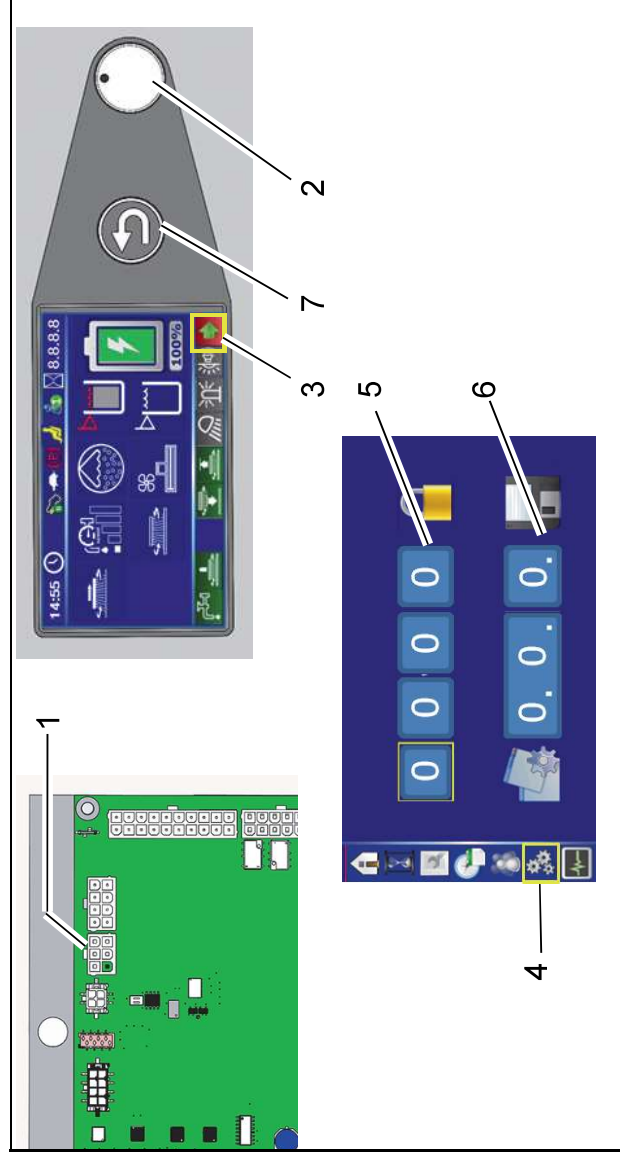

Fig. 3
Plug diagnosis plug into slot X20 of controller A1 (Fig. 3/1).
2. Select the arrow soft key (Fig. 3/3) on the control panel using the turn-push knob (DDS)(Fig. 3/2) and press to access the sub-menu.
3. Select the configuration menu in the sub-menu (Fig. 3/4).
4. Enter the 4-digit code in the configuration menu at the top (Fig. 3/5):
5. In the configuration menu at the bottom (Fig. 3/6), set the value of the option and save by pressing the DDS. After confirming the last digit, OK? appears. Press DDS again to save the value. Saved value is displayed in green.
- If the value is not to be saved, exit menu using the return key (Fig. 3/7).